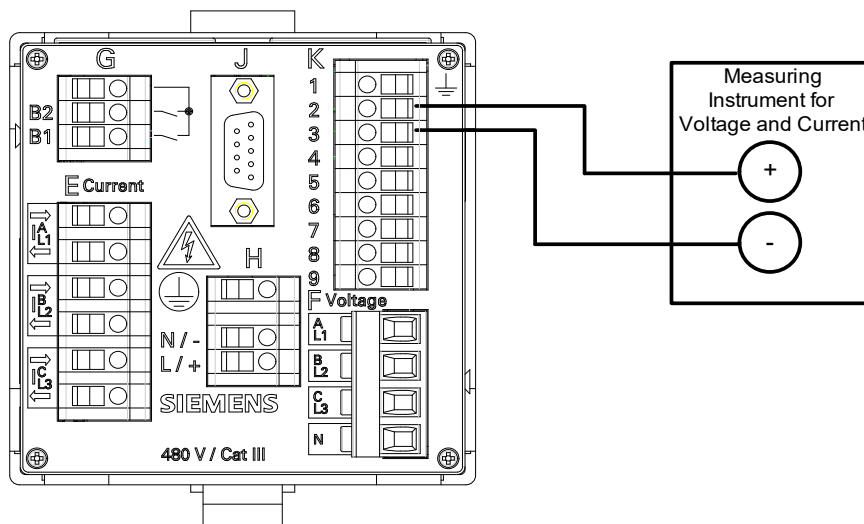

Fig. 10-14 Measurement Setup for Calibrating the DC Analog Outputs
- ✧ Set up the measurement as shown in figure 10-14.